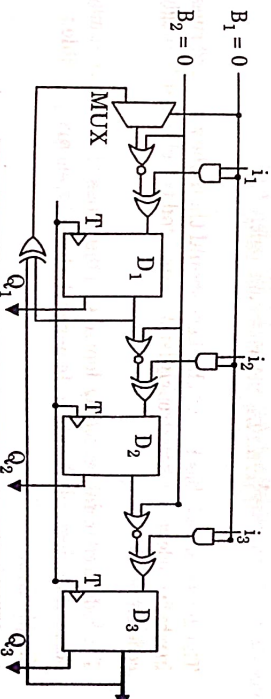

Fig. 5.16.4. Built-in-test-(BILBO) scan path mode.
- In the test 1 mode, $B_1 = B_2 = 0$ and the storage elements are configured as a scan path, all storage elements being connected as a serial shift register as shown in Fig. 5.16.4.